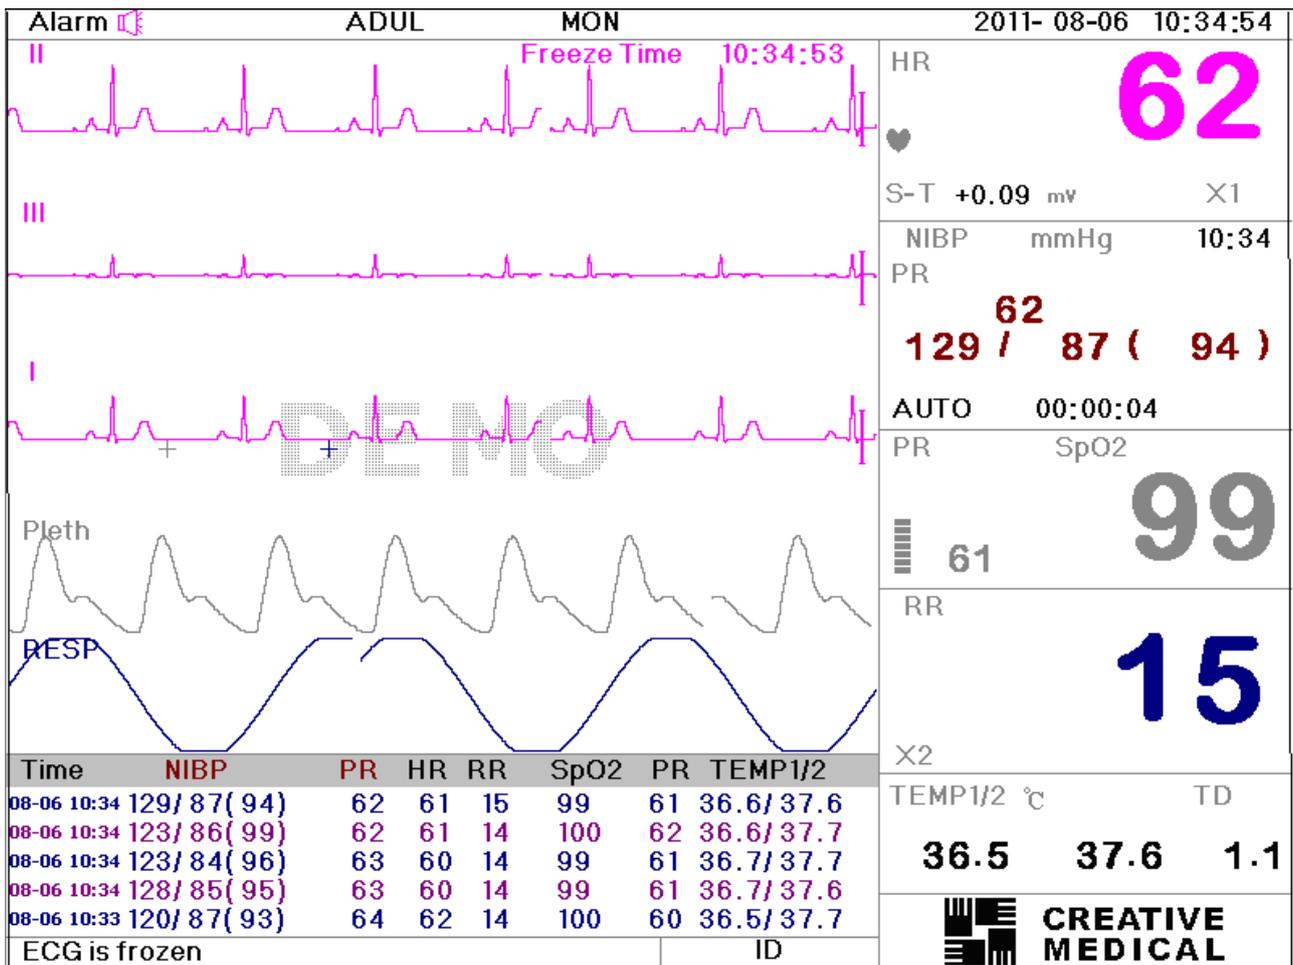
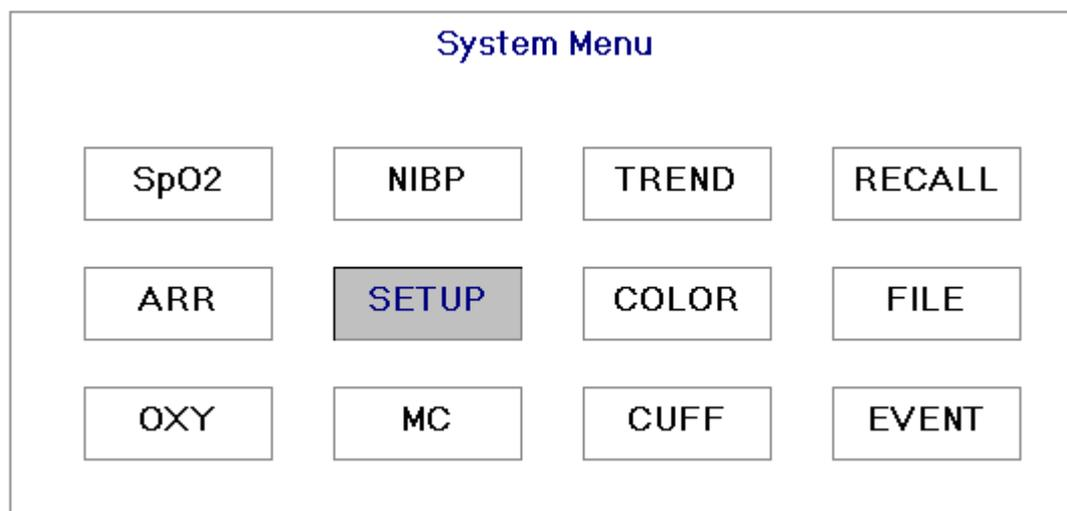

Figure 4.2 Main screen
Figure 4.11 Mode selection screen
- step 5:** If you have finished adjusting the date and time, press the knob and rotate the knob to move the cursor to “Save”. Press it to save the settings and exit the date and time setting screen, meanwhile enter into the main screen shown in Figure 4.2. If you press “Exit”, the settings will not be saved.
The system is initialized and enters into Main Screen where monitoring and system operation are performed. (as shown in Figure 4.2).
Press the “Navigation Knob” in the main screen as shown in Figure 4.2, the operating area shows the mode selection screen, as shown in Figure 4.11.